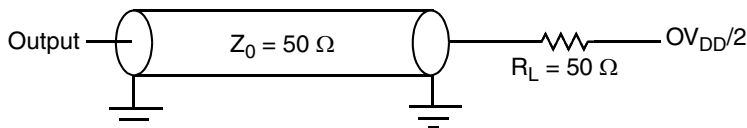
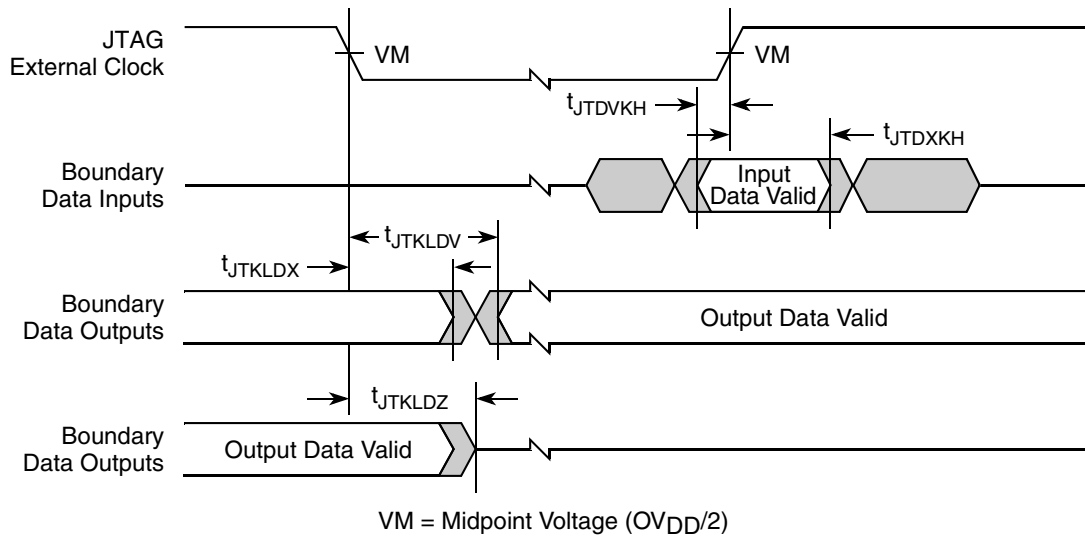

Figure 30. AC Test Load for the JTAG Interface
Figure 33. Boundary-Scan Timing Diagram
Table 45 provides the JTAG AC timing specifications as defined in Figure 30 through Figure 33.
1. All outputs are measured from the midpoint voltage of the falling/rising edge of t_{TCLK} to the midpoint of the signal in question. The output timings are measured at the pins. All output timings assume a purely resistive 50-Ω load (see Figure 30). Time-of-flight delays must be added for trace lengths, vias, and connectors in the system.
2. The symbols used for timing specifications follow the pattern of $t_{(first\ two\ letters\ of\ functional\ block)(signal)(state)(reference)(state)}$ for inputs and $t_{(first\ two\ letters\ of\ functional\ block)(reference)(state)(signal)(state)}$ for outputs. For example, t_{JTDVKH} symbolizes JTAG device timing (JT) with respect to the time data input signals (D) reaching the valid state (V) relative to the t_{JTG} clock reference (K) going to the high (H) state or setup time. Also, t_{JTDXKH} symbolizes JTAG timing (JT) with respect to the time data input signals (D) went invalid (X) relative to the t_{JTG} clock reference (K) going to the high (H) state. Note that, in general, the clock reference symbol representation is based on three letters representing the clock of a particular functional. For rise and fall times, the latter convention is used with the appropriate letter: R (rise) or F (fall).
Figure 30 provides the AC test load for TDO and the boundary-scan outputs.
Figure 33 provides the boundary-scan timing diagram.